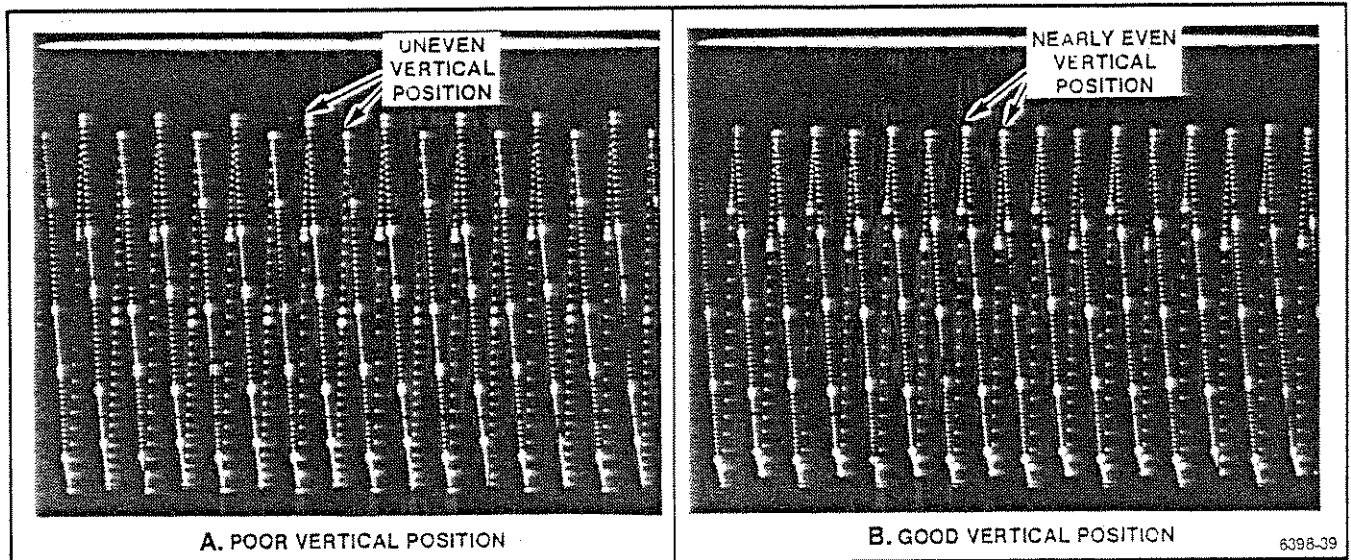

Fig. 4-12 Waveform for Phase calibration adjustment
- e. Select the position of S450 on A32 that minimizes the position difference between the top and bottom portions of the displayed waveform. Figure 4-12 shows a good and bad waveform.